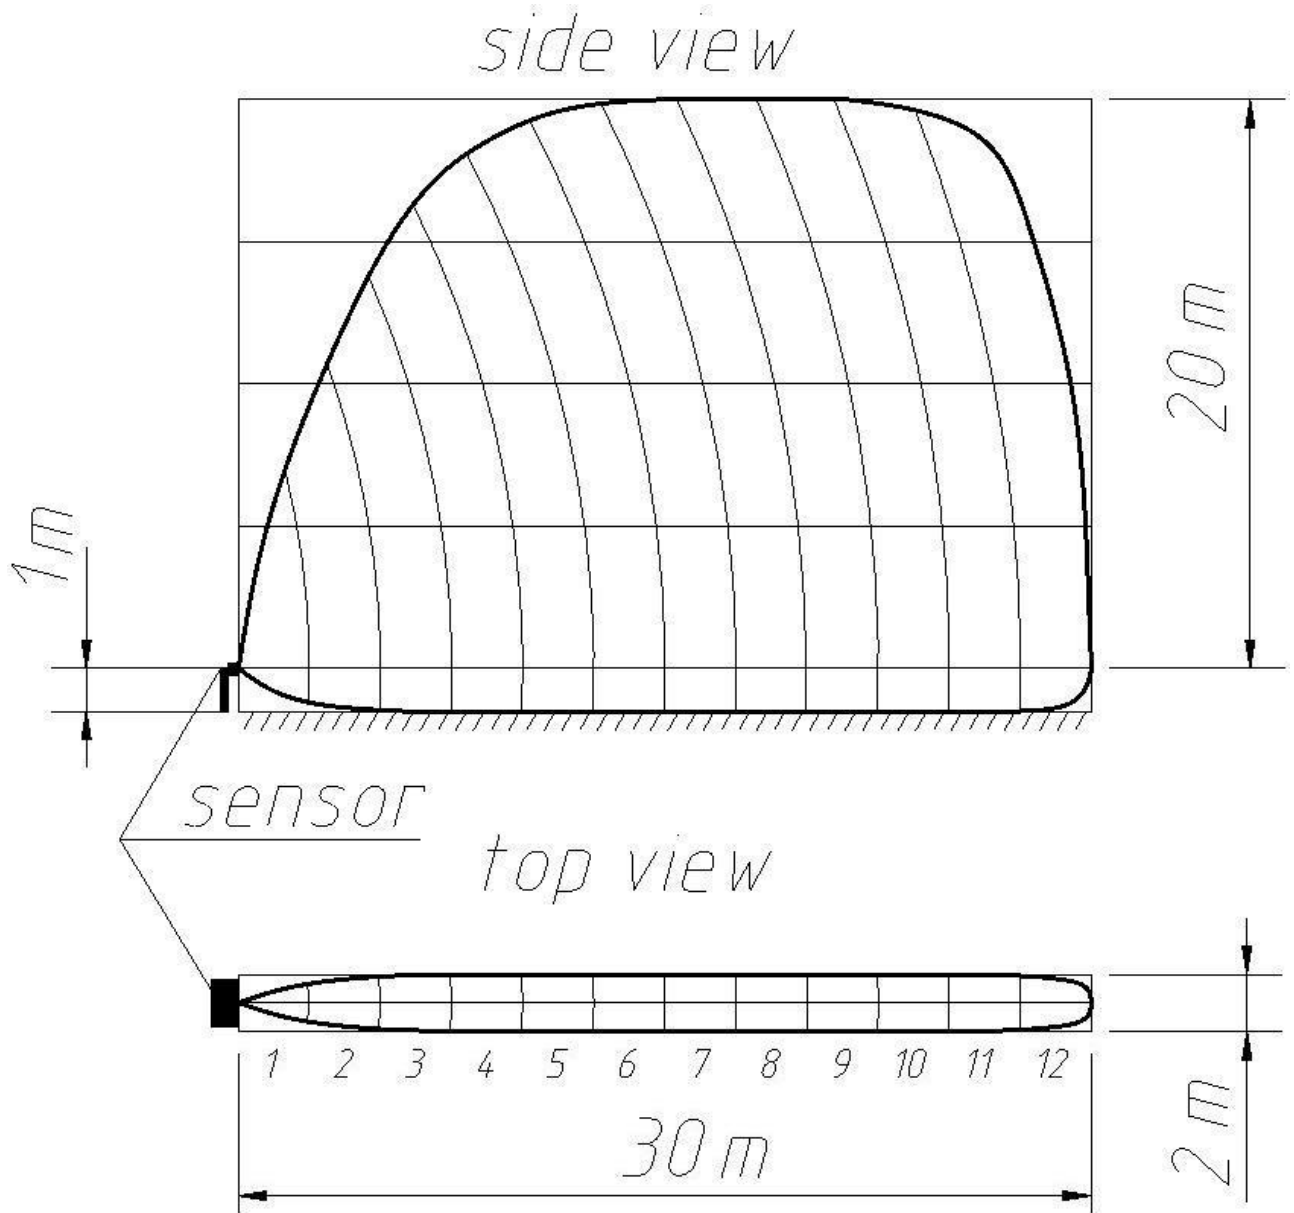

Figure 1.1 – Maximum detection zone of sensor installed on pole 1 m from ground
1.2.1 Figure 1.1 and Tables 1.1, 1.2 show configuration of the detection zone of sensors mounted on poles, minimum and maximum detection range, detection width and detection height.